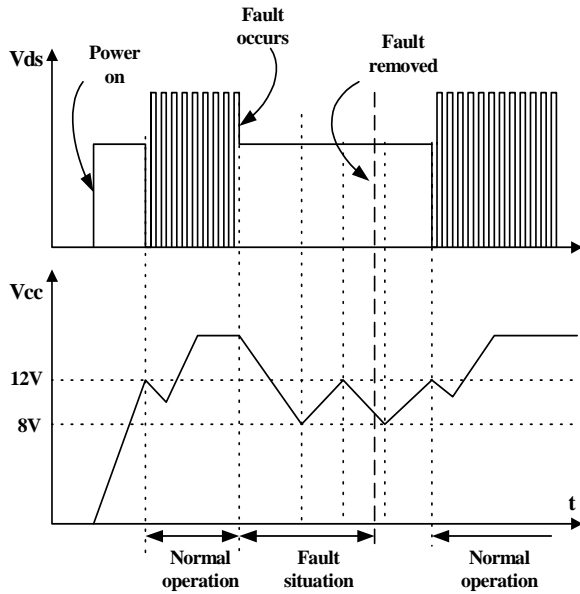

Figure 6. Auto restart operation
**3. Protection Circuit :** The FSDM07652R has several self protective functions such as over load protection (OLP), abnormal over current protection (AOCP), over voltage protection (OVP) and thermal shutdown (TSD). Because these protection circuits are fully integrated into the IC without external components, the reliability can be improved without increasing cost. Once the fault condition occurs, switching is terminated and the Sense FET remains off. This causes Vcc to fall. When Vcc reaches the UVLO stop voltage, 8V, the protection is reset and the internal high voltage current source charges the Vcc capacitor via the Vstr pin. When Vcc reaches the UVLO start voltage, 12V, the FPS™ resumes its normal operation. In this manner, the auto-restart can alternately enable and disable the switching of the power Sense FET until the fault condition is eliminated (see figure 6).